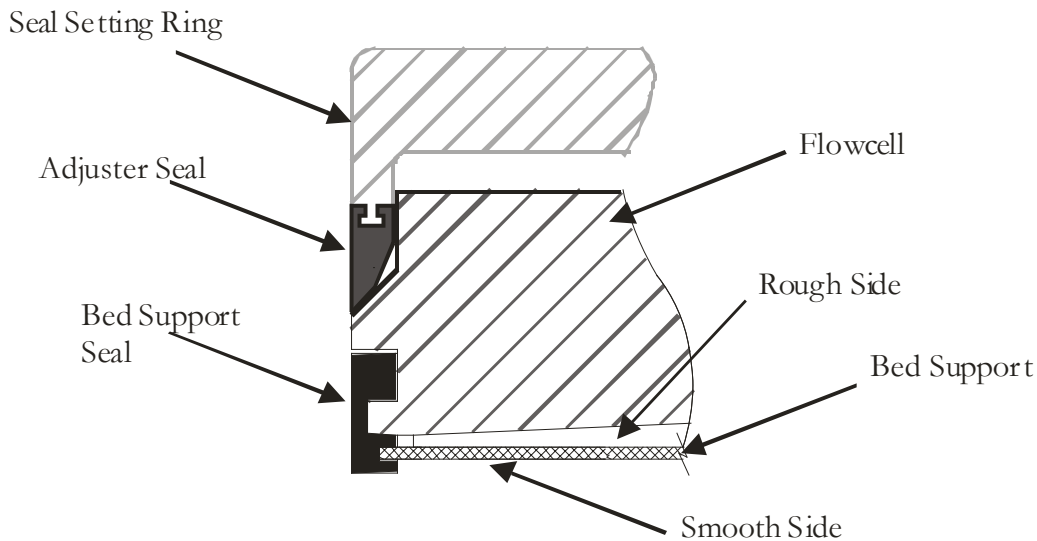

Figure 19: Diagram showing the location of the adjuster bed support
1. Install the adjuster bed support by carefully locating the bed support seal into its location groove in the side of the adjuster cell. Ensure the seal is pushed tight into the groove. The bed support should be fitted with the smooth side facing into the column, rougher side to flow cell. See Figure 19 below.